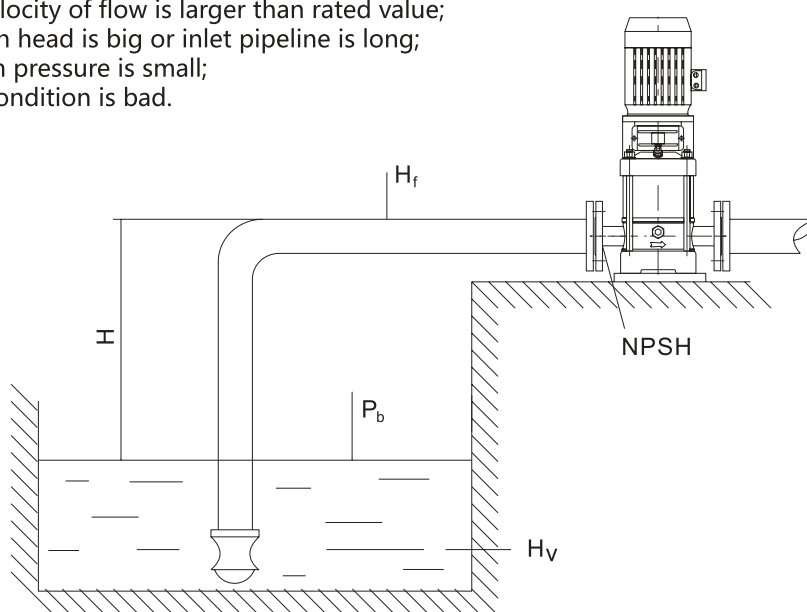

Fig. 1
- Friction loss in the pipework (H_f) (Refer to Fig.1) It may.